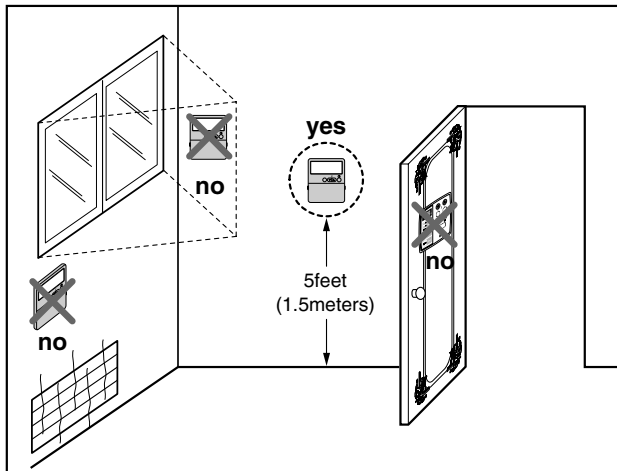

Fig.5 Typical locations for remote controller
- This remote controller is equipped with a seven segment LED. display. For proper display of the remote controller LED's, the remote controller should be installed properly as shown in Fig.5.
- 3) Refer to Figure 5 for the electrical access locations provided on the unit.